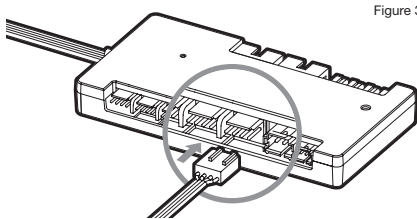

Figure 3
4. Connect the XD5 RGB's pump 4-pin fan connector into Fan Port #6 on your CORSAIR Commander PRO (Figure 3).